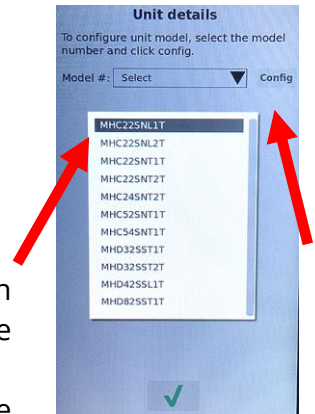

Figure 42
- 55. Press the down arrow (see Figure 41) and select the correct configuration for the cabinet configuration (see Figure 42). The first number is the # of vertical slots. The second number is the # of trays horizontally. If the controller is horizontal, use the model number with on the third character from the right. The next to the last character has for single sided and a "2" for double sided. Once the model is selected, the **Config** button if a double-sided unit. For single sided units, once model is selected, proceed to step 57.